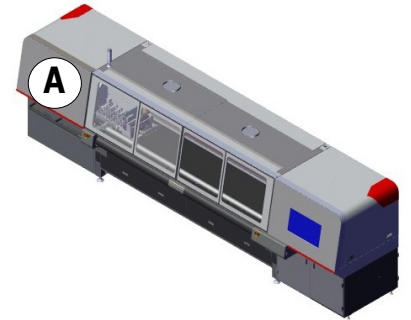

Figure 6-18 Printer Front View
3. Open the carriage compartment door, Figure 6-18 location (A).